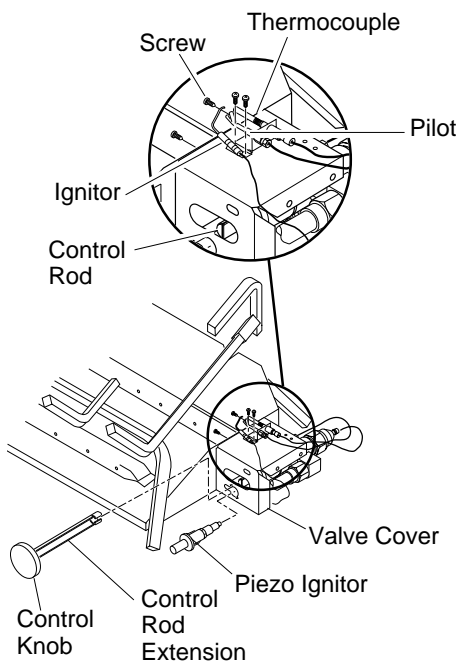

Figure 14 - Installing Cover, Control Knob, and Piezo Ignitor
- Install thermocouple, pilot, and ignitor onto valve cover as shown in Figure 14. Use the provided screws.
- Push the control rod extension onto the "D" shaped control rod through the center hole in the cover (see Figure 14).